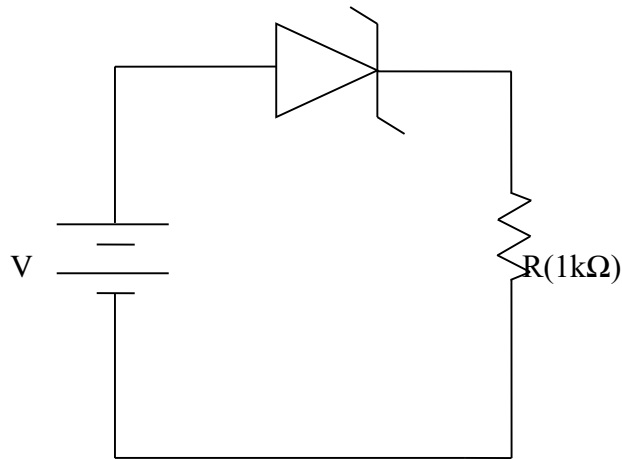

Fig 7.3 Forward zener diode circuit
1. Draw circuit diagram of Fig 7.3 on breadboard.